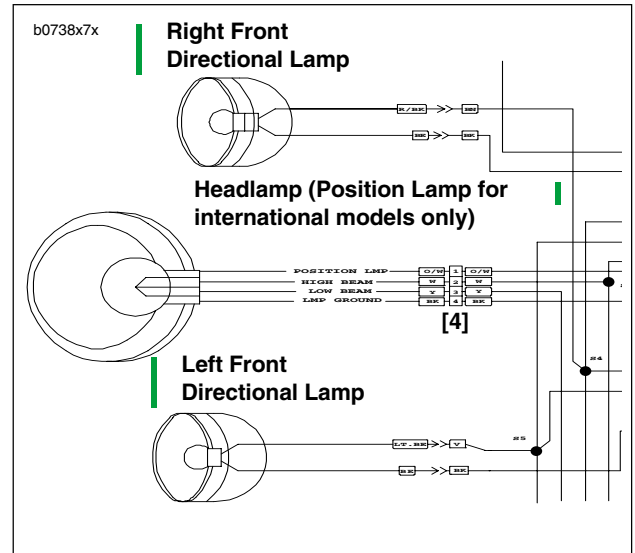

Figure 7-64. Front Turn Signal Connections
2. See Figure 7-64. Disconnect bullet connectors on turn signal wires.
2. Attach bullet connectors on turn signal wires as shown in Figure 7-64.